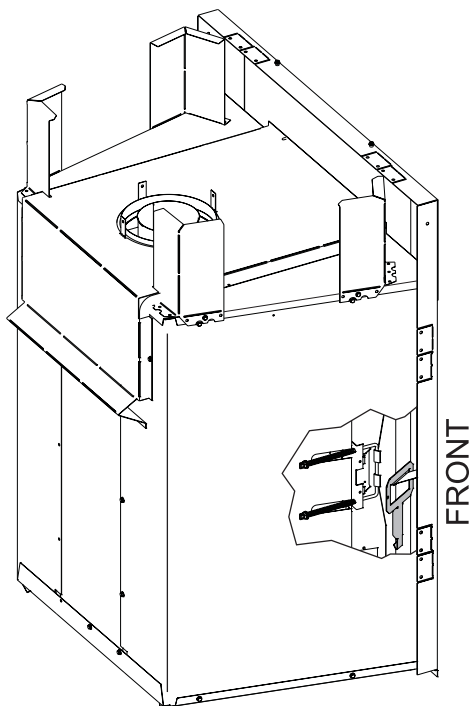

Figure 85
1. The glass latch tool is shipped with the unit attached to the left hand side, and may be stored on a hook inside the left hand side of the firebox cavity. **See Figure 85.**